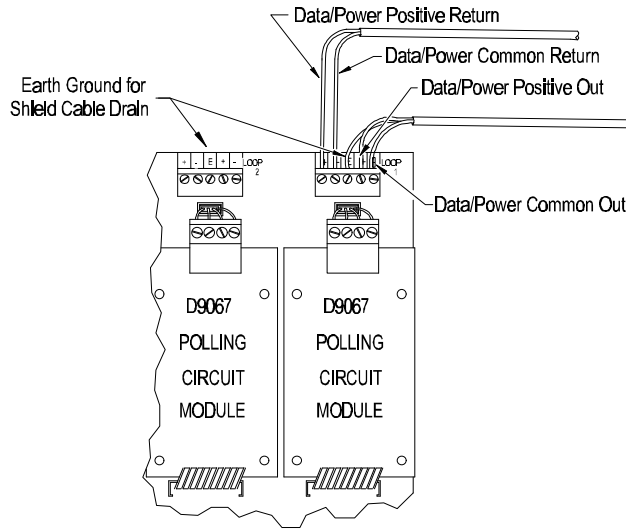

Figure 9: D9067 Class “A” (Style 6) Connection
- Connect the Data/Power Positive (+) wire of the polling circuit to the + terminal of the Data Terminal Block at the top of the D10024M Control Communicator. Connect the Data/Power Common (-) wire of the polling circuit to the - terminal of the Data Terminal Block. Connect the returning Data/Power wires to the respective terminals as shown in Figure 9.